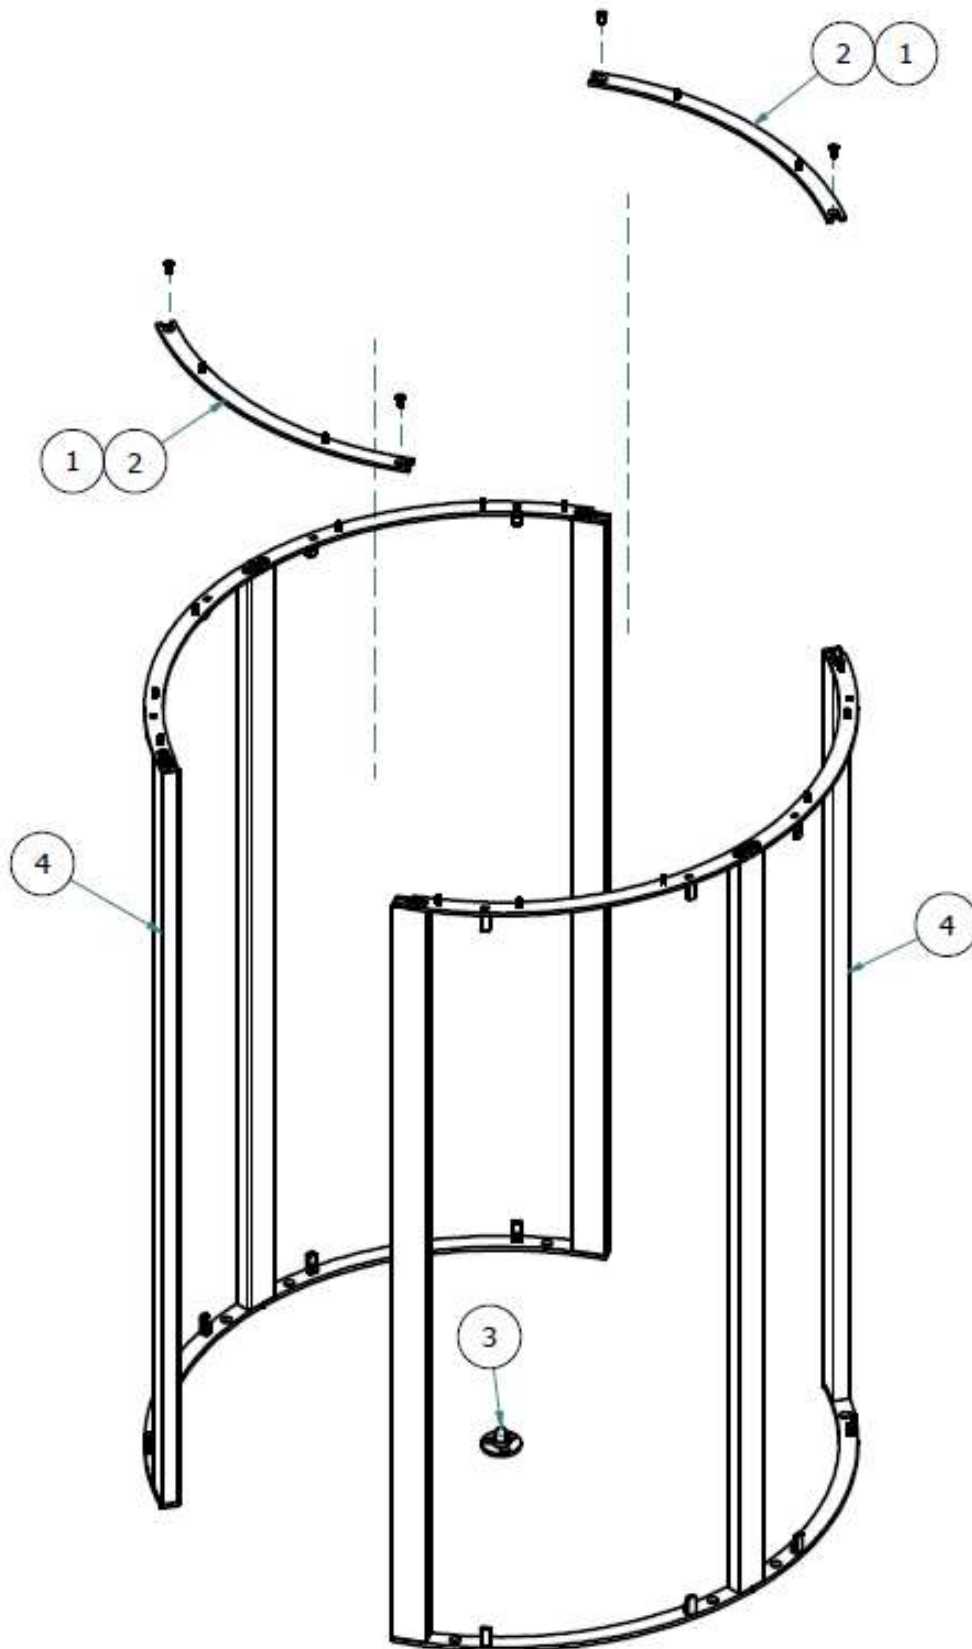

**Figure 8: Frame placement**
- 5.4. Place the two side halves over the marked area as shown in Figure 8. Ensure to pull the power & control cables from the conduit through the uprights to lead into the top channel. Also place the bearing assembly.
- 5.5. Pull draw wire for the pressure mat through the upright as shown in *Figure 8*.